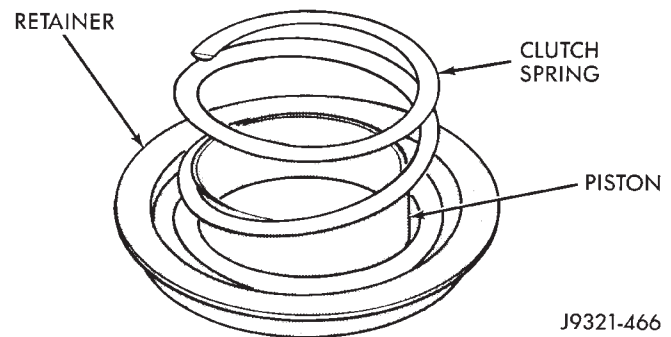

Fig. 57 Clutch Spring Installation
(5) Position spring in clutch piston (Fig. 57).